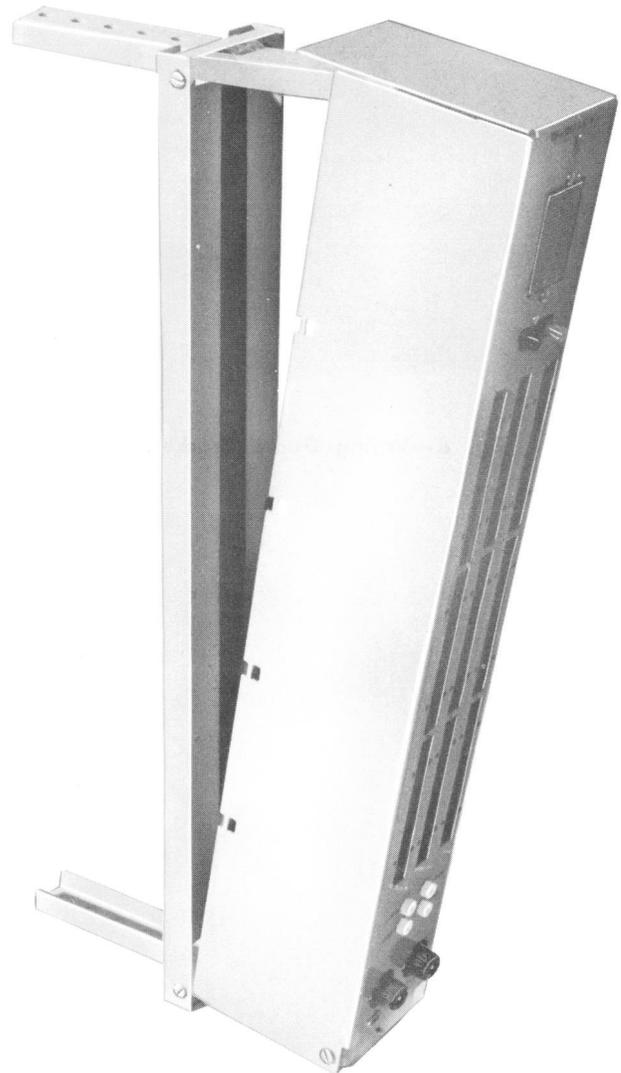

Fig. 11—Test/Talk Panel in Opened Position
- (2) Pull the face panel forward at the top, pivoting the panel at the bottom as shown in Figure 11. This reveals the internal components of the panel.